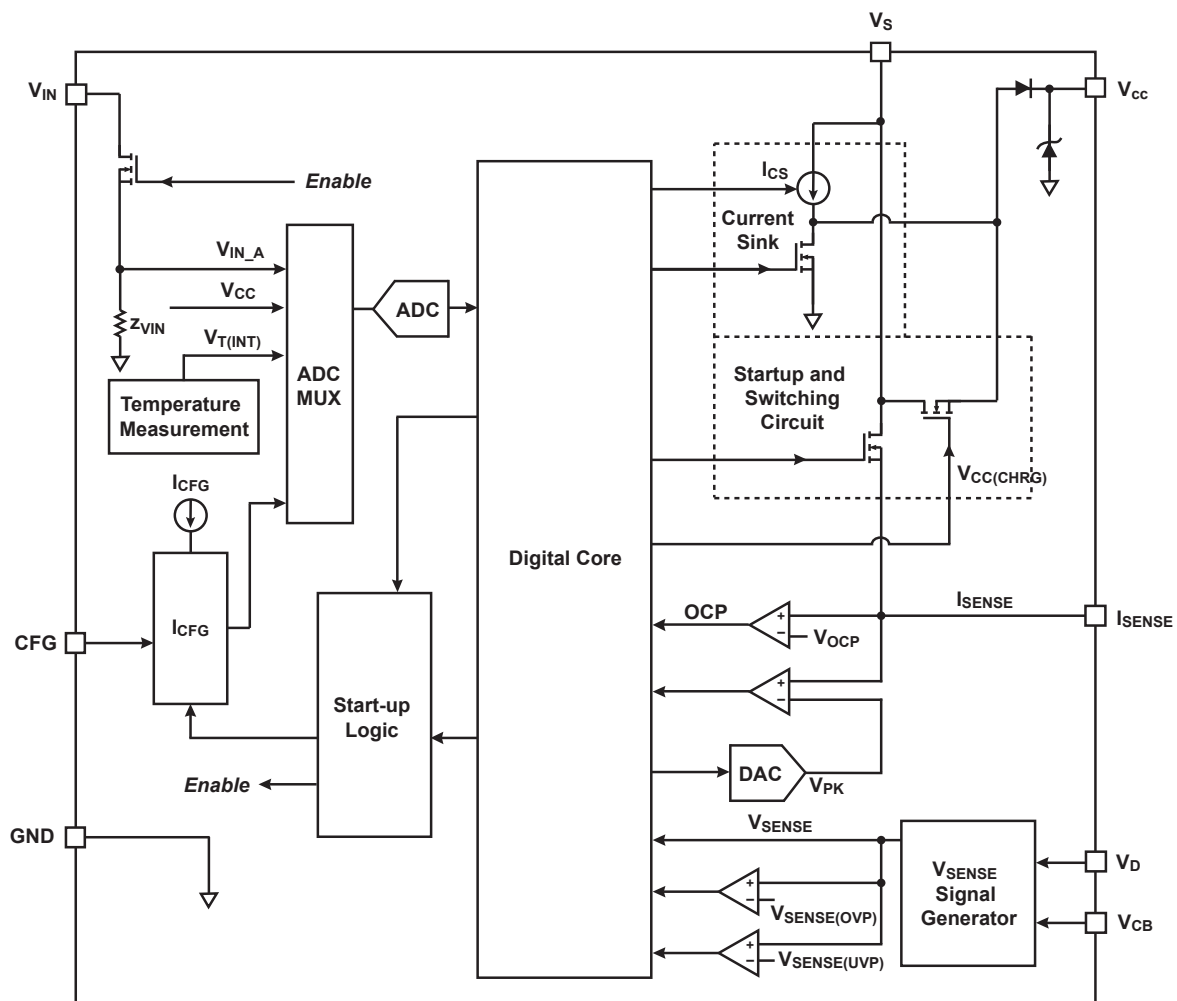
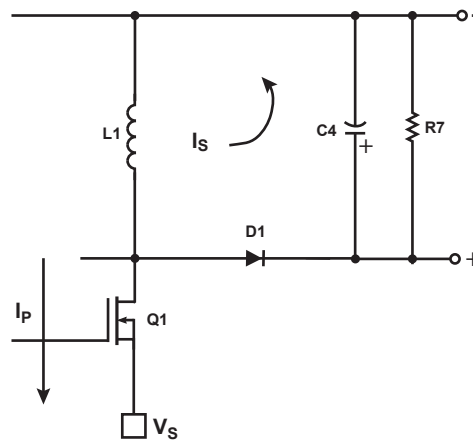
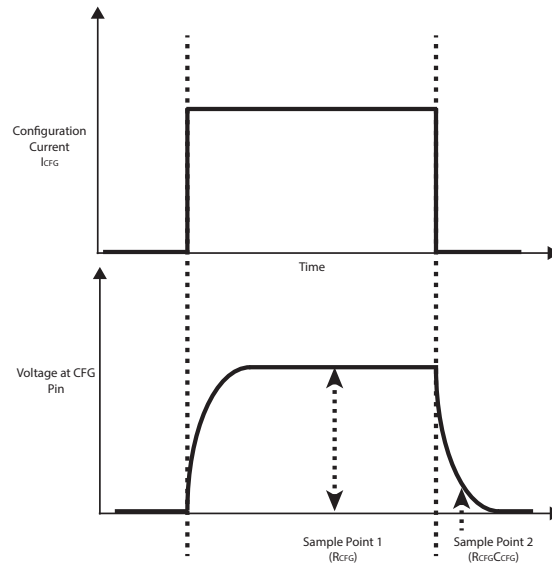

Figure 8.1 : iW3681-20 Functional Block Diagram
Figure 9.5 : Inductor Current Flow in Switching Mode
Figure 9.9 : Configuration Pin (CFG) Timing Waveform
- Note 2. Refer to the voltage level at the  $V_{IN\_A}$  point in Figure 8.1. The typical impedance between the  $V_{IN}$  pin and  $V_{IN\_A}$  point is  $500\Omega$ .
- Note 4. Refer to  $Z_{VIN}$  in Figure 8.1.
The Digital Core (shown in Figure 8.1) analyzes the rectified AC waveform and determines whether a dimmer is connected on the line. There are three dimmer modes in the iW3681-20: no-dimmer, leading-edge dimmer, and trailing-edge dimmer. Based on the detected dimmer type and input voltage waveform, the iW3681-20 determines whether to operate in current sink mode or switching mode. During switching mode, the output current regulation is determined by the inductor peak current ( $I_{\text{SENSE}}$  pin), the magnetic flux status of the inductor ( $V_D$  and  $V_{CB}$  pins), and the input voltage waveform ( $V_{\text{IN}}$  pin) (refer to section 9.4 for more information).
If a dimmer (either leading-edge or trailing-edge) is detected on the AC line, the iW3681-20 operates in dimmer mode. In dimmer mode, MOSFET (Q1 in Figure 11.1) operates in both switching mode and current sink mode based on the timing control of iW3681-20. During the switching mode, the output current is adjusted based on the detected phase conduction angle. During current sink mode, the switching circuit is disabled and the current sink circuit is enabled. The main MOSFET is forced to operate in linear mode, where the current through MOSFET is regulated by the Digital Core. As shown in Figure 8.1,  $V_{\text{CC}}$  can be charged during both current sink mode and switching mode.
In iW3681-20, output current regulation is implemented through peak current control in switching mode. Figure 9.5 and 9.6 show the basic principle of this peak current regulation during the switching mode. During  $T_{ON}$ , the main switch Q1 (shown in Figure 9.5) is turned on and the current,  $I_P$ , flows through the primary side of the buck-boost converter and Q1.  $I_P$  ramps up linearly and causes energy to build up in the power inductor L1 (shown in Figure 9.5). The iW3681-20 continuously monitors  $I_{SENSE}$  pin voltage, when it reaches  $V_{PK}$  (shown in Figure 8.1), it turns off the switching circuit. At this time,  $I_P$  reaches peak current regulation level  $I_{PK}$  (shown in Figure 9.5 and 9.6). After Q1 is turned off, the current in L1 ramps down linearly through D1 (shown in Figure 9.5), until the energy stored in the power inductor is discharged. During this period, the current through L1 flows to the secondary side of the buck-boost/flyback converter, which is called  $I_S$ .
where  $I_{PK}$  is the peak value of the primary winding current.  $N_{TR}$  is the primary-secondary turns ratio. For single winding inductor topology as shown in Figure 9.5,  $N_{TR} = 1$ .  $T_R$  is the secondary-side current ramp-down time, and  $T_P$  is the entire switching period.
At start-up, a current source in the iW3681-20 drives the configuration current  $I_{CFG}$  (100 $\mu$ A) into the CFG pin (shown in Figure 8.1). The iW3681-20 reads the pin voltage to determine the configuration option. The CFG pin configuration selects the temperature de-rating start point (OTP),  $V_{PK}$  high limit value at dimmer mode, and  $V_{IN}$  rising edge  $V_{PK}$  clamp value at no dimmer mode. The iW3681-20 can use either a single CFG resistor to ground for programming the configuration function, or it can use an RC configuration method to achieve more configuration flexibility. The CFG pin monitors two voltage sample points as shown on figure 9.9. The first point is set by the resistor value from CFG to ground and the second is set by the RC time constant if a capacitor is placed in parallel with the CFG resistor. Based on these two sample points, the iW3681-20 sets the functionality shown in table 9.1. The iW3681-20 can determine whether the capacitor is used in parallel with the resistor or not and program the configuration function accordingly.